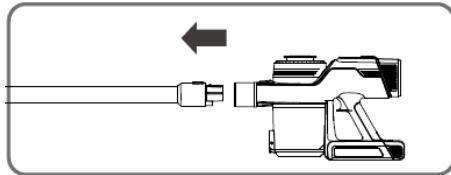

Figure 2
- To remove the aluminum tube, hold the housingmain with one hand and pull it out with the other hand by pressing the button. (Figure 2)